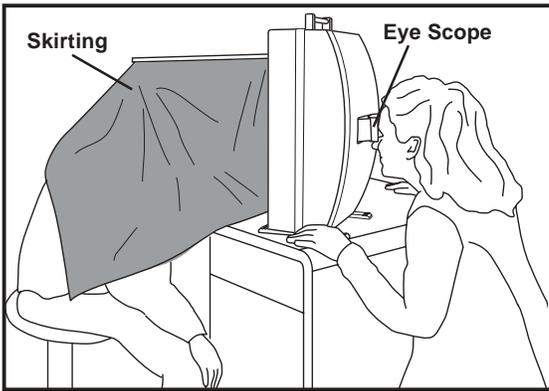

Figure 8
2. Have the client face the front of the concave mirror and adjust the mirror angle for their own viewing convenience (fig. 8).